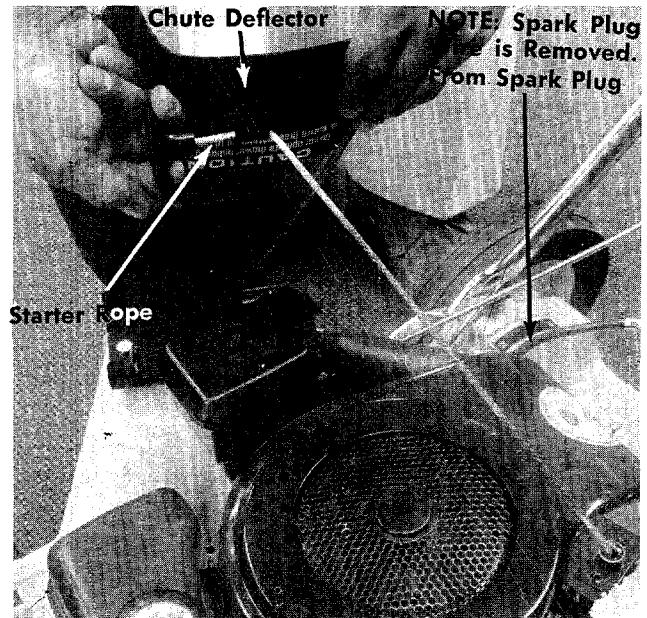

FIGURE 2. SECURING DEFLECTOR FOR ASSEMBLY
1. As an added safety precaution, remove the spark plug wire as shown in figure 2.
5. Lift the chute up and hold in place with the starter rope. See figure 2.